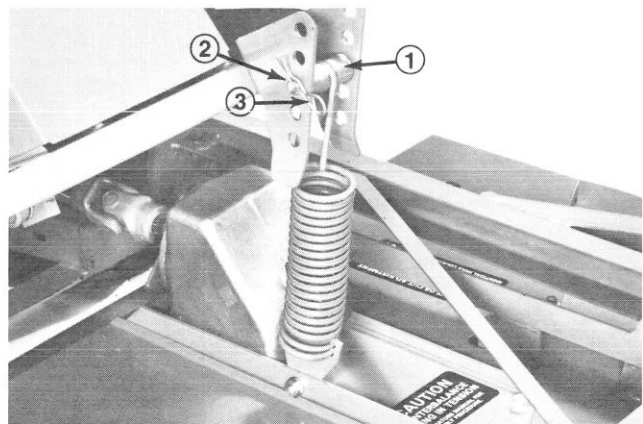

Figure 14
4. Start engine and raise cutting unit. Insert long hook end of spring into center groove of spacer, align spacer and spring with center bracket holes and insert clevis pin through center bracket hole, spacer and spring (Fig. 14). Secure assembly with hairpin (Fig. 14).